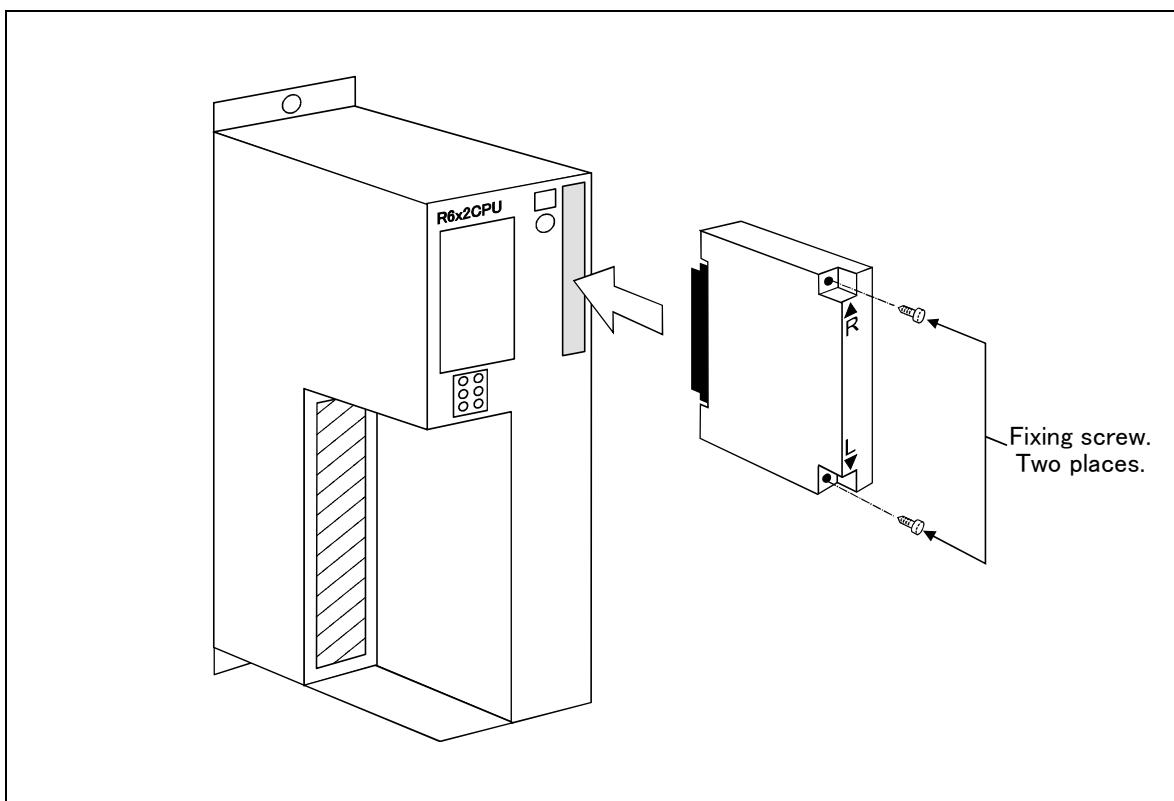

Fig.3-37 : Installation of extension memory cassette
- As shown in Fig. 3-37, insert the memory cassette all the way to the back with the "▲" facing up.
- As shown in Fig. 3-37, insert the memory cassette all the way to the back with the "L" facing up.